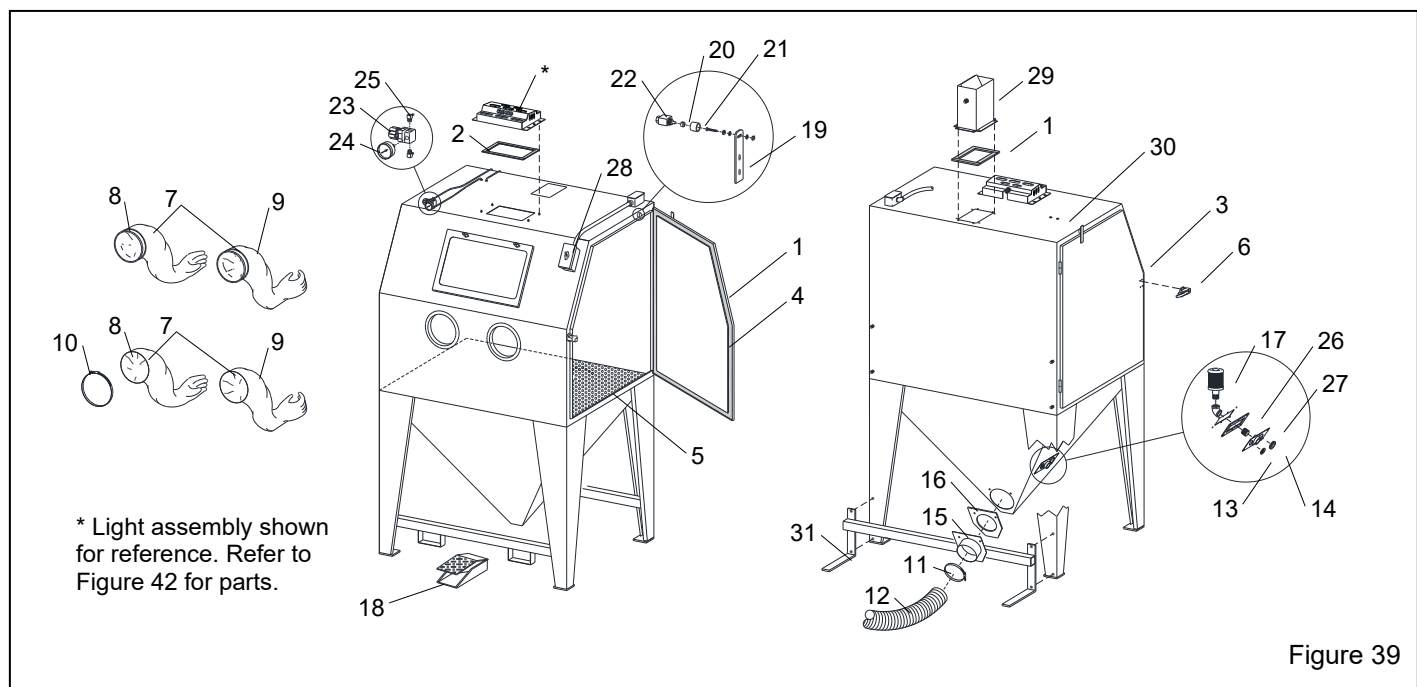

Figure 39
9.2 Cabinet Replacement Parts – Figure 39